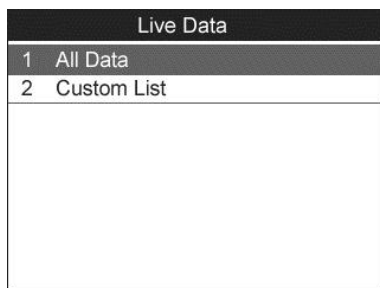

Figure 12-7
- 1) From the Live Data menu (Figure 12-7), use the **UP/DOWN** scroll button to select **All Data** and press the **OK** button.
- 1) To retrieve customized live sensor data, use the **UP/DOWN** scroll button to select **Custom List** from **Live Data** menu (Figure 12-7) and press the **OK** button.